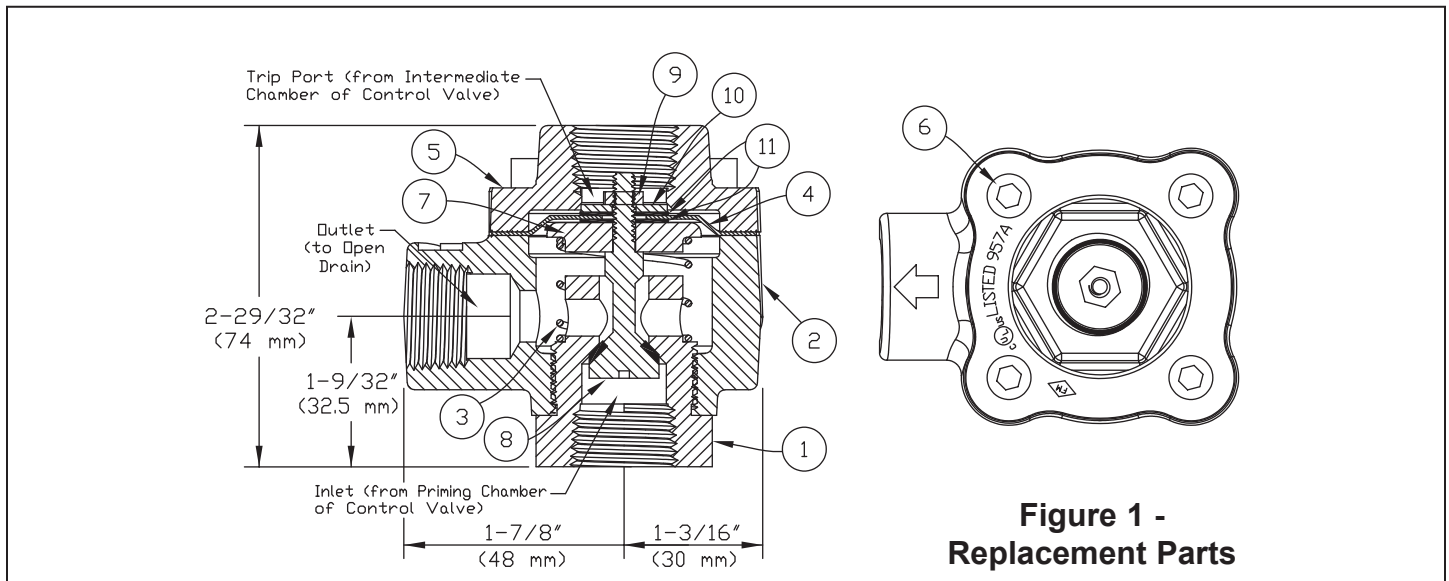

Figure 1 - Replacement Parts
Refer to Figure 1.
B. Disassembly: (Refer to Figure 1.)
3. To remove the cover (5), remove each of the cover screws (6) using a 3/16" Allen wrench.
4. With the cover (5) removed, you can now remove the jam nut (9).
- a. To remove the jam nut (9), place the flat head screwdriver through the bottom of the PORV to hold the push rod (8) in place.
- b. Use a socket wrench with a 3/8" socket to remove the jam nut (9).
5. With the jam nut (9) removed, you can remove the washers (10, 11), diaphragm (4), support (7), spring (3) and the push rod (8).